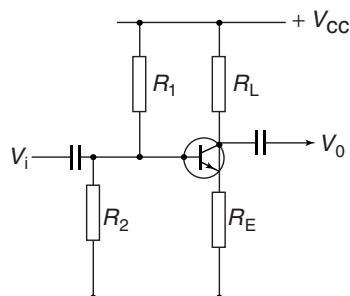

Figure 12.26
- In questions 11 to 15, which refer to the amplifier shown in Fig. 12.26, select the correct answer from those given